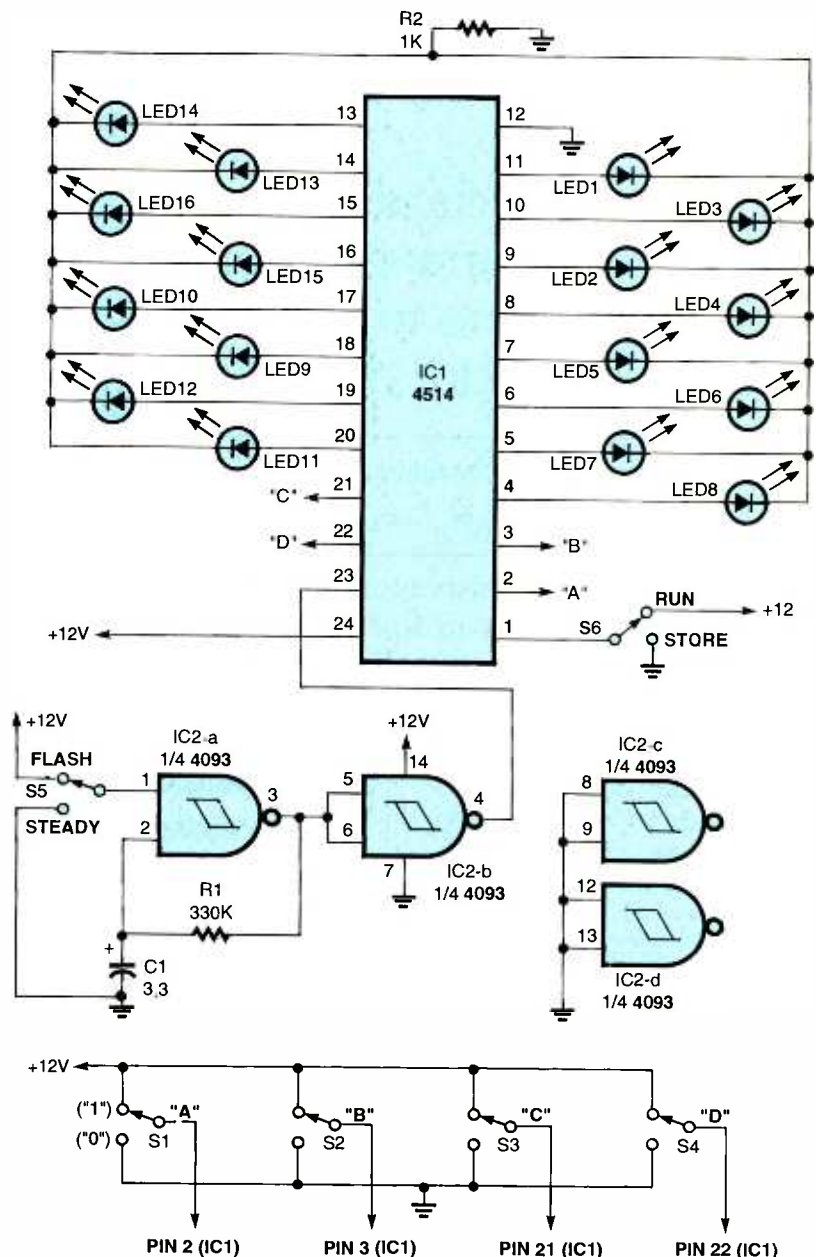
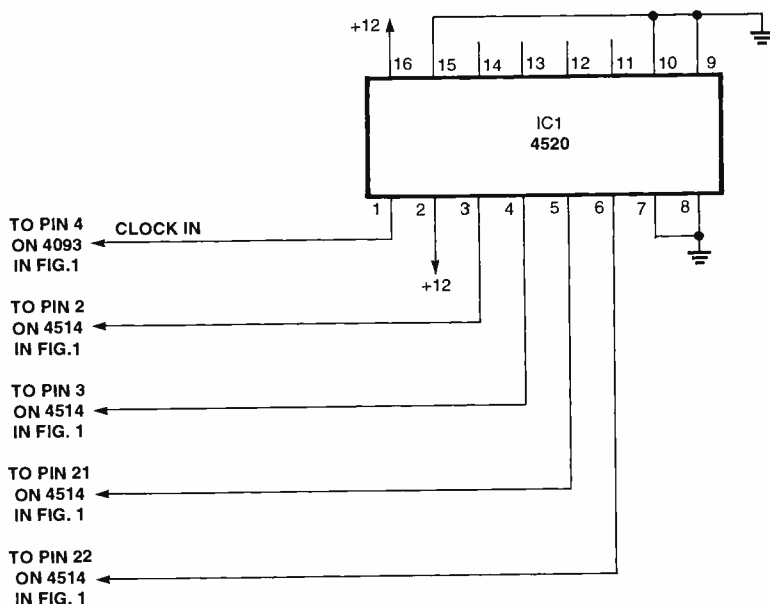

Fig. 1. This decoder circuit converts 4-bit BCD data inputs to one or more decimal outputs. The LEDs represent the output decimal number.
Fig. 2. Here's an addition to the circuit in Fig. 1—an external clock input into the 4520 IC sets the BCD data.
Now let's take a look at the 4514 circuit shown in Fig. 1 and see how it can work for us. If we monitor IC1's 16 outputs we can tell if the circuit is performing as expected. Connecting an LED to each output makes the job a snap. All of the LED's cathodes are tied together and returned to ground through a single 1000-ohm resistor, R2. Since only one output can be on at a time, a single current-limiting resistor is all that is needed.
PARTS LIST FOR BCD DECODER CIRCUIT (FIG. 1)
PARTS LIST FOR CIRCUIT TO CLOCK IN BCD CODES (FIG. 2)
A variation of this circuit is shown in Fig. 2. One-half of a dual divide-by-sixteen counter IC, a 4520, is used to supply the BCD codes to the 4514 circuit of Fig. 1. The 4520 CMOS dual binary up-counter contains two divide-by-sixteen counters with a 1, 2, 4, 8 binary output code. The 4520's clock input ties to the output of the 4093 low-frequency oscillator circuit of Fig. 1, and it steps the counter from 0 to 15. The "A," "B," "C," and "D" BCD outputs of the 4520 are connected as shown in Fig. 2 to the 4514 inputs of Fig. 1.
The next four circuits, all shown in Fig. 3, illustrate how the 4514 positive logic data outputs can control external loads. The circuits shown can be driven with any of the 4514 IC outputs from Fig. 1. The circuit in Fig. 3A allows the IC to control an AC-operated lamp or other low-current load. The MOC3010 optoisolator/coupler can supply a load up to 100 mA at 117-volts AC. The circuit in Fig. 3B uses a IRF511 power MOSFET to drive a 12-volt DC heavy-duty relay. In Fig. 3C, a 2N2222 NPN transistor drives a low-current 12-volt DC lamp. Figure 3D illustrates how to invert any of the 4514's outputs through one section of a 4049 hex-inverting buffer IC.
If, for some reason, you need the 4514 outputs to go low instead of high, just remove the 4514 and replace it with a 4515 IC. The 4515 presents a logical "0," or low, at the selected output and is a pin-for-pin replacement for the 4514—with only the outputs being reversed. Figure 4 shows how the 16 LEDs may be connected to the 4515 and used for output indication. Refer to Fig. 1 for the other connections.
Fig. 3. These four circuits are driven by the 4514 IC in Fig. 1. In (A) the AC load is derived from an optoisolator/coupler. In (B) a MOSFET is used to switch the relay state, which controls the load. A simple transistor in (C) drives a lamp load, and in (D) the circuit shows how an inverting buffer is used to invert the output at the load.
The circuit in Fig. 5 shows IC1, the 4067 CMOS 16-channel analog multiplexer/demultiplexer, connected in the digital mode with a single 12-volt DC supply. The 4093 Schmitt trigger, IC2, is connected as a low-frequency oscillator circuit to supply a clock input to IC1 (the same circuit we used in Fig. 1). Switch S5 selects either the oscillator's output or an external digital signal for IC1's in/out port at pin 1. Switches S1–S4 are set up for a BCD-coded input (the same as used in our first circuit) to drive IC1's BCD inputs "A," "B," "C," and "D."
*SEE FIG. 1 FOR CONNECTIONS AT OTHER PINS
- R2—1000-ohm, 1/4-watt, 5% resistor (See Parts List of Fig. 1 for other components)